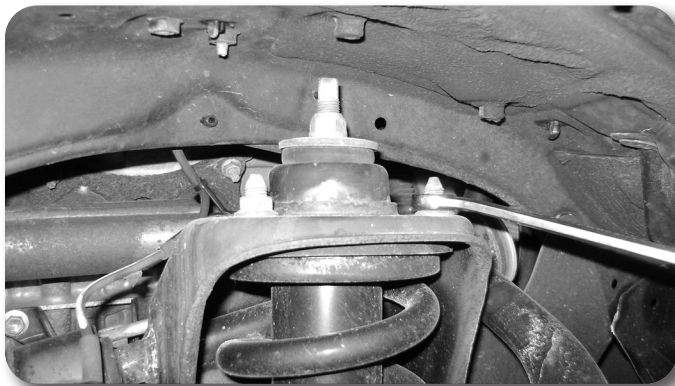

Figure 3
7. Locate the 3 upper strut mount nuts. **Figure 3** Remove the nuts and remove the strut from the vehicle. Do not remove the center strut rod nut. It is under extreme pressure. Save nuts.